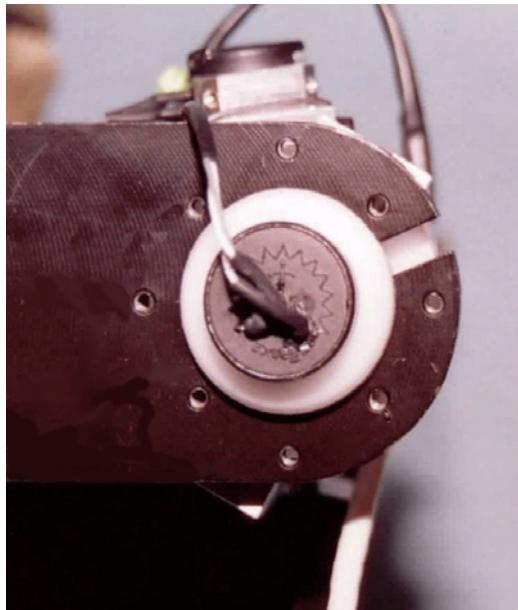

Figure 10.12- Align potentiometer so
11. Rotate the flanged surface of the bushing until the engraved arrow is pointing upwards as shown in **Figure 10.12**. The orientation of the arrow will ensure proper operation of the yoke axis rotary potentiometer during the dynamic test event.